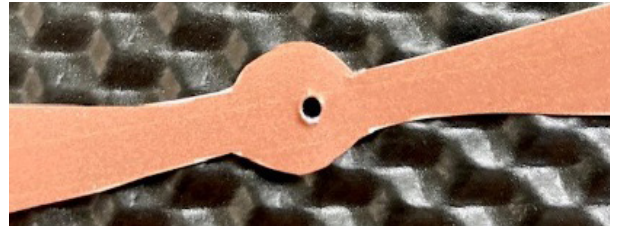

Figure 4. Poke a small hole in the center of each of the parts you cut out in the previous step.
5. Make a small hole (see Figure 4) in the middle of each of the parts you cut out in the previous step. This can be done using a pushpin or other sharp object. This is to allow the toothpick to be pushed through the paper. Be careful poking the hole – you may need the assistance of an adult.